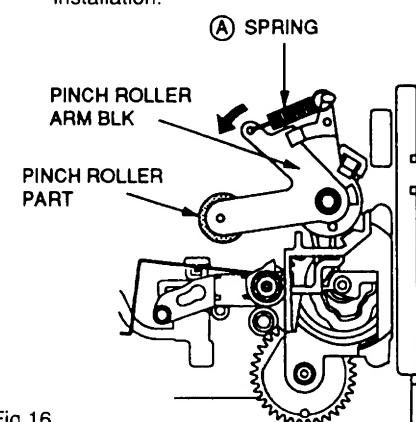

Fig 16.
- 1: Remove the (A) spring, then remove the PINCH ROLLER ARM BLOCK by turning it in the direction of the arrow and pulling it upward as shown in Fig 16.